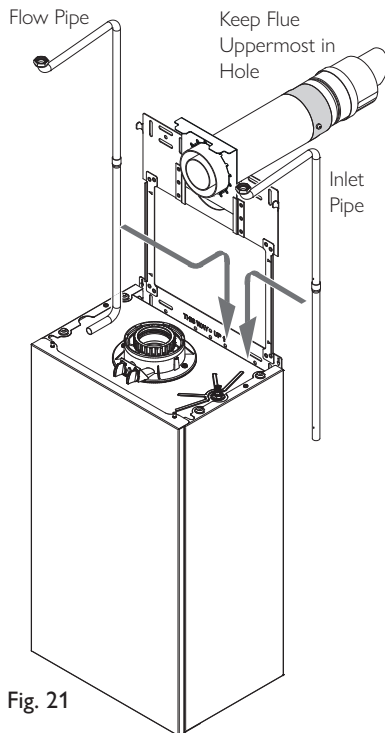

Fig. 21
5. After identifying the FGHR inlet and flow pipes (Fig. 21), manoeuvre them into place behind the boiler.